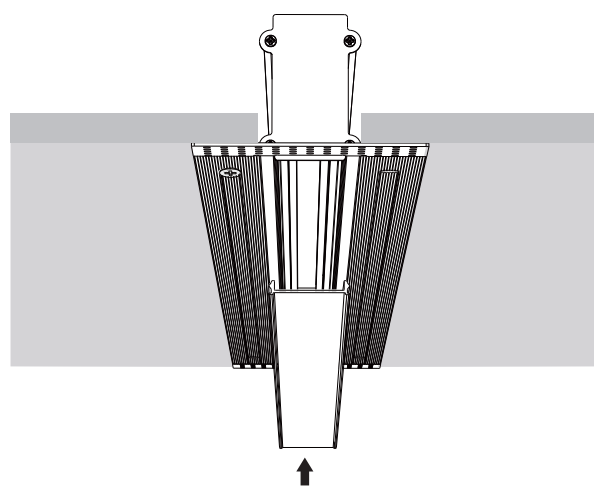
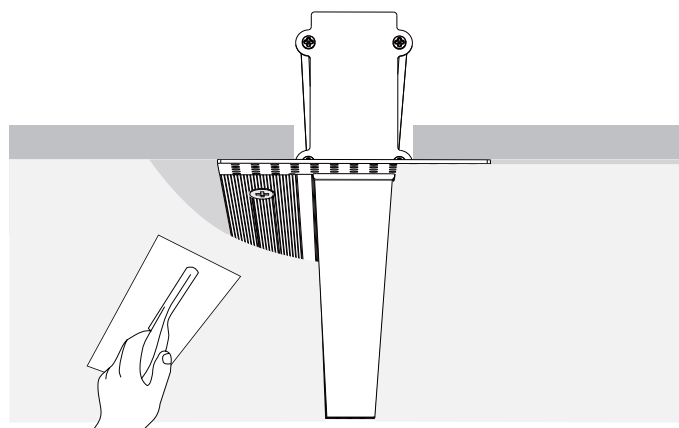

Figure 18
Figure 19
3. Put cover on the rail (Figure 18) and apply desired material (not provided) to cover the bars (Figure 19).